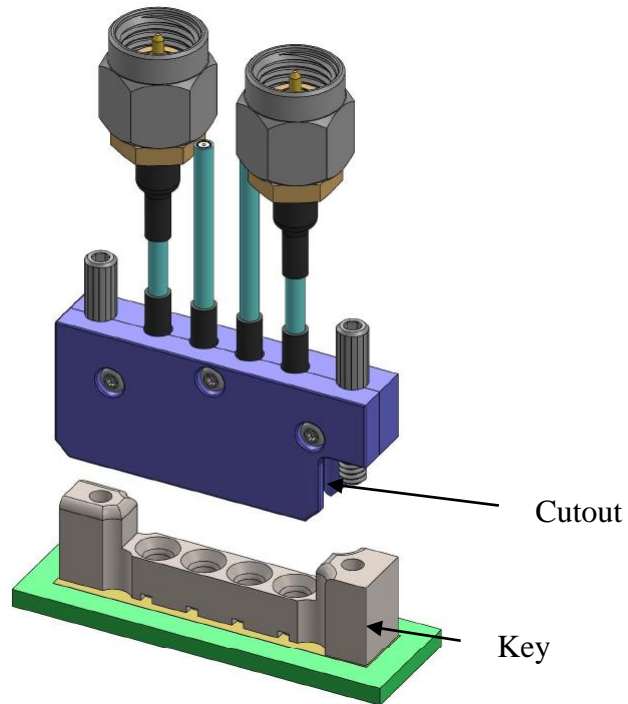

Figure 4: Cable Assembly onto Connector - Alignment
- 3.2. See Figures 4 and 5 for representative view to illustrate assembly of Connector and Cable Assembly. View is of 4 position Connector and Cable Assembly
5.1. Reference Figures 4 and 5.